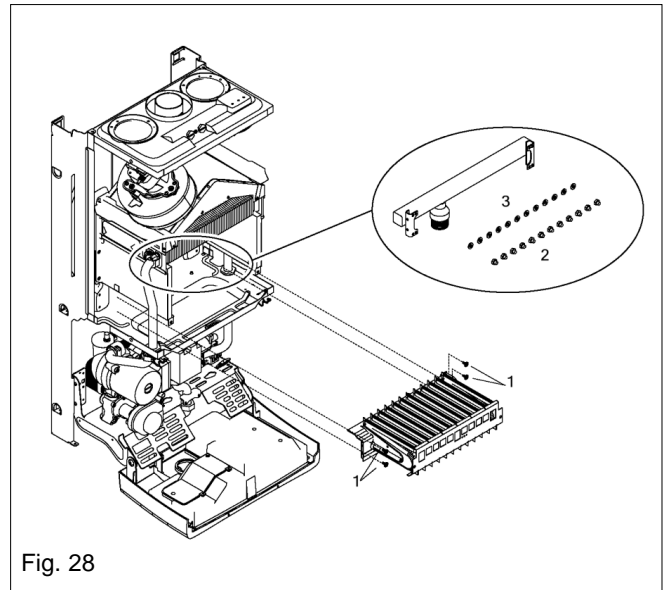

Fig. 28
6.15 ELECTRODE, BURNER THERMOSTAT, BURNER, & INJECTORS fig. 28